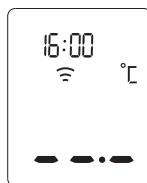

Figure 4
3. Press the **⏻** *BUTTON* to turn on the thermometer, you can take the object temperature after hearing two beep sounds.(see figure 4)